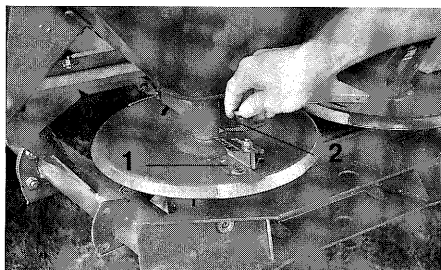

Fig. 7.12
For spreading along field sides or field boundaries the boundary spread vane „**Tele-Quick**“ (Fig. 7.12/1) (standard“) for spreading the **left hand field boundary** or the border spread deflector (Fig. 7.17) (option\*) is used.
- Exchange the long spreading vane of the left hand „**Omnia-Set**“ spreading disc (seen in driving direction) for a boundary spread vane „**Tele-Quick**“ (Fig. 7.12/1). **When not in use the boundary spread vane „Tele-Quick“ or the long spreading vane can be bolted to the side of the machine (Fig. 7.13).**
- b) The outer vane part (Fig. 7.15/4) can, after slackening the nut (Fig. 7.15/5), e. g. with the inner hexagon hole of the thumb nut (Fig. 7.12/2), is extendable gradually along the scale (Fig. 7.15/6) to positions „**A to F**“. The individual position of the outer vane part can be read off at the read-off edge (Fig. 7.15/7) of the scale.